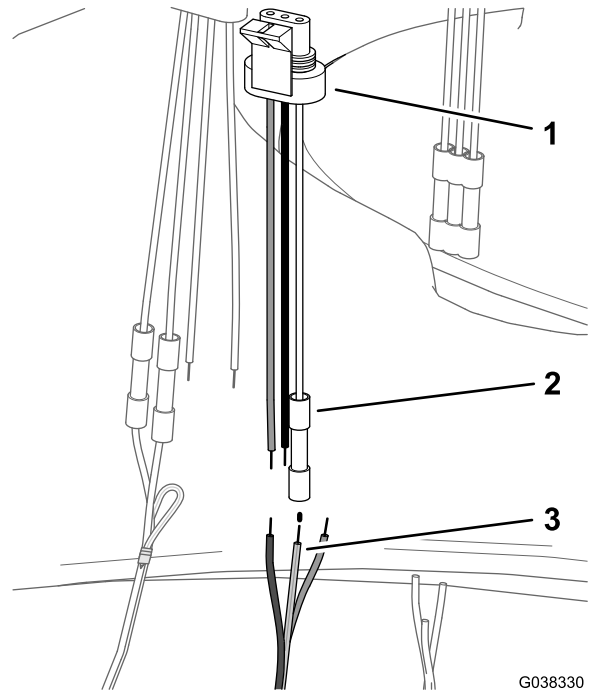

Figure 43
3. Align the yellow and green wire of the DIN harness with the white wire of the 3-pin adapter for the agitation-valve (Figure 43); refer to the wire table for the agitation valve.